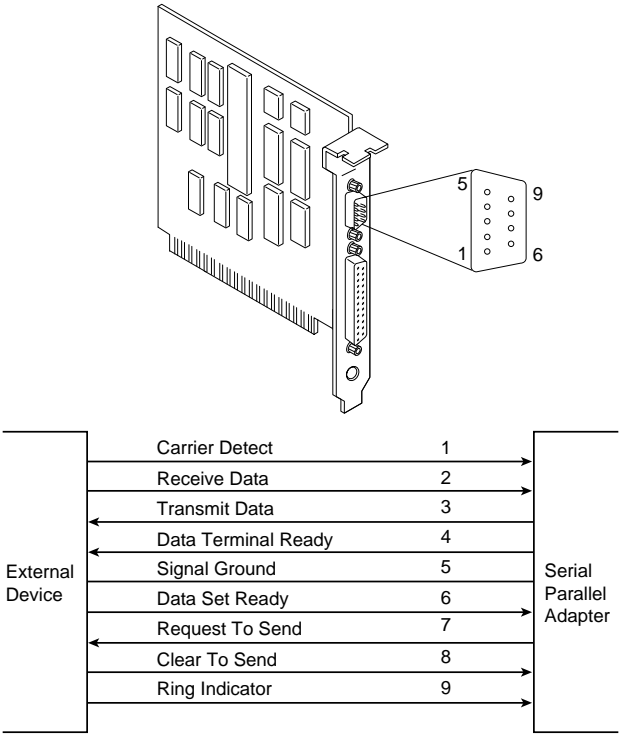
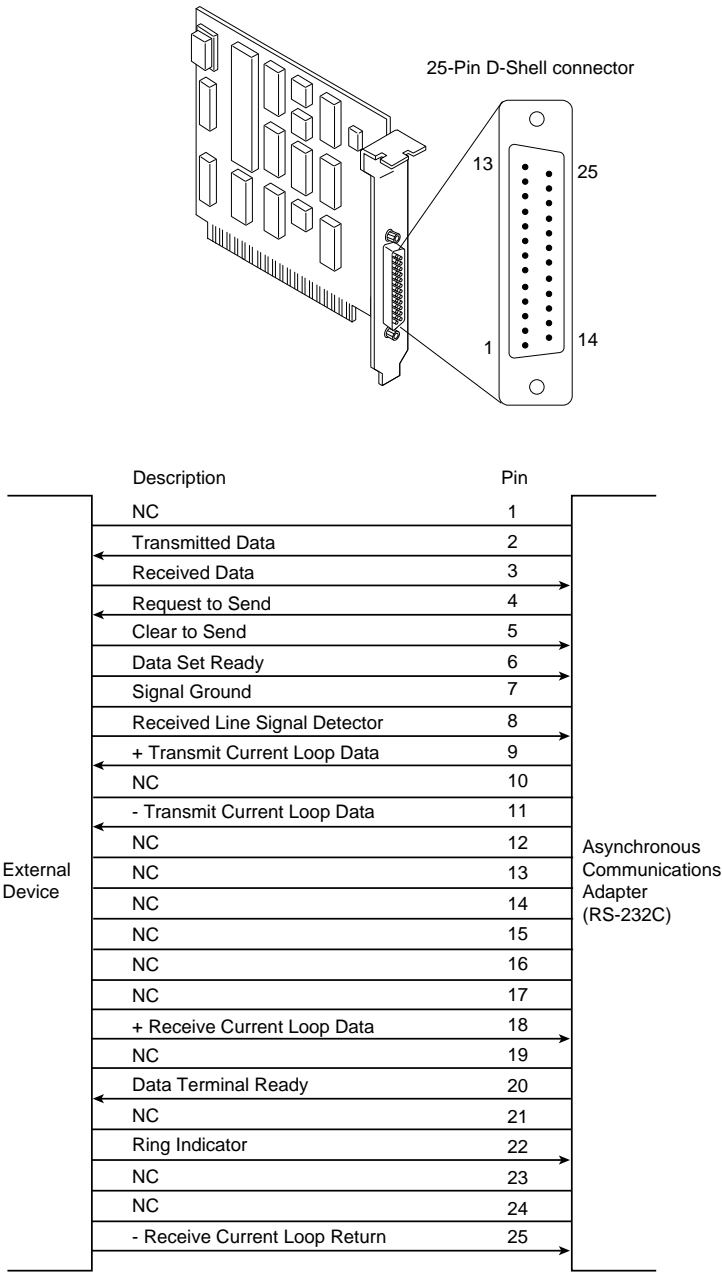

FIG. 11.1 AT-style 9-pin serialport connector specifications.
FIG. 11.2 Standard 25-pin serialport connector specifications.
*Serial* refers to data sent over a single wire, with each bit lining up in a series as the bits are sent. This type of communication is used over the phone system, because this system provides one wire for data in each direction. Add-on serial ports for the PC are available from many manufacturers. You usually can find these ports on one of the multifunction boards available or on a board with at least a parallel port. Figure 11.1 shows the standard 9-pin AT-style serial port, and Figure 11.2 shows the 25-pin version.